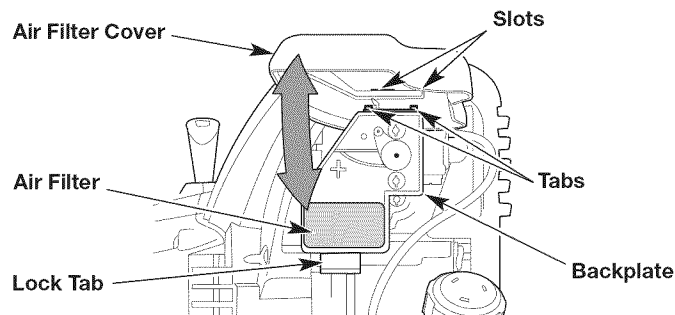

Fig. 22
1. Open the air filter cover: press in the lock tab and swing the air filter cover up (Fig. 22).
2. Remove the air filter (Fig. 22).
6. Reinstall the air filter (Fig. 22).
7. Close the air filter cover: insert the tabs on the backplate into the slots on the air filter cover. Swing the air filter cover down and press it closed until the lock tab snaps into place (Fig. 22).